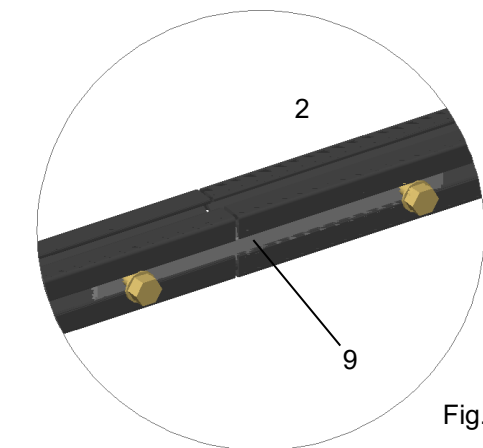

Fig. 6
In the case of several mounting rails (2) are connected together, a connector set (9) must be inserted and screwed into the corresponding guide of the profile (Fig. 6)